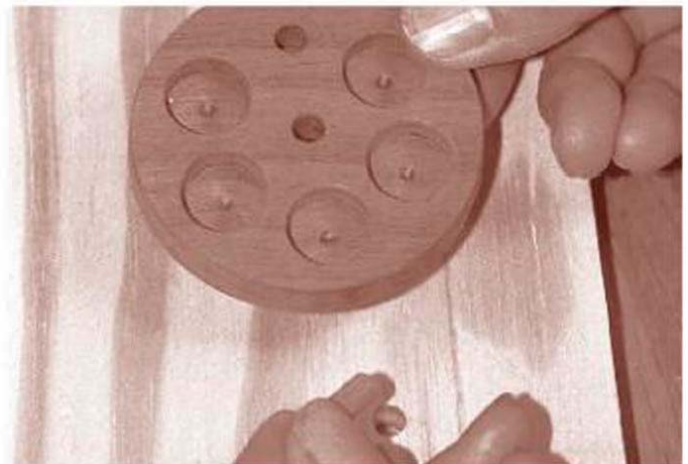

FIGURE 21-15
- 5** Set the various wheels in place—the pulley wheel, the handle crank wheel (Figure 21-15) and the large spacer disk.